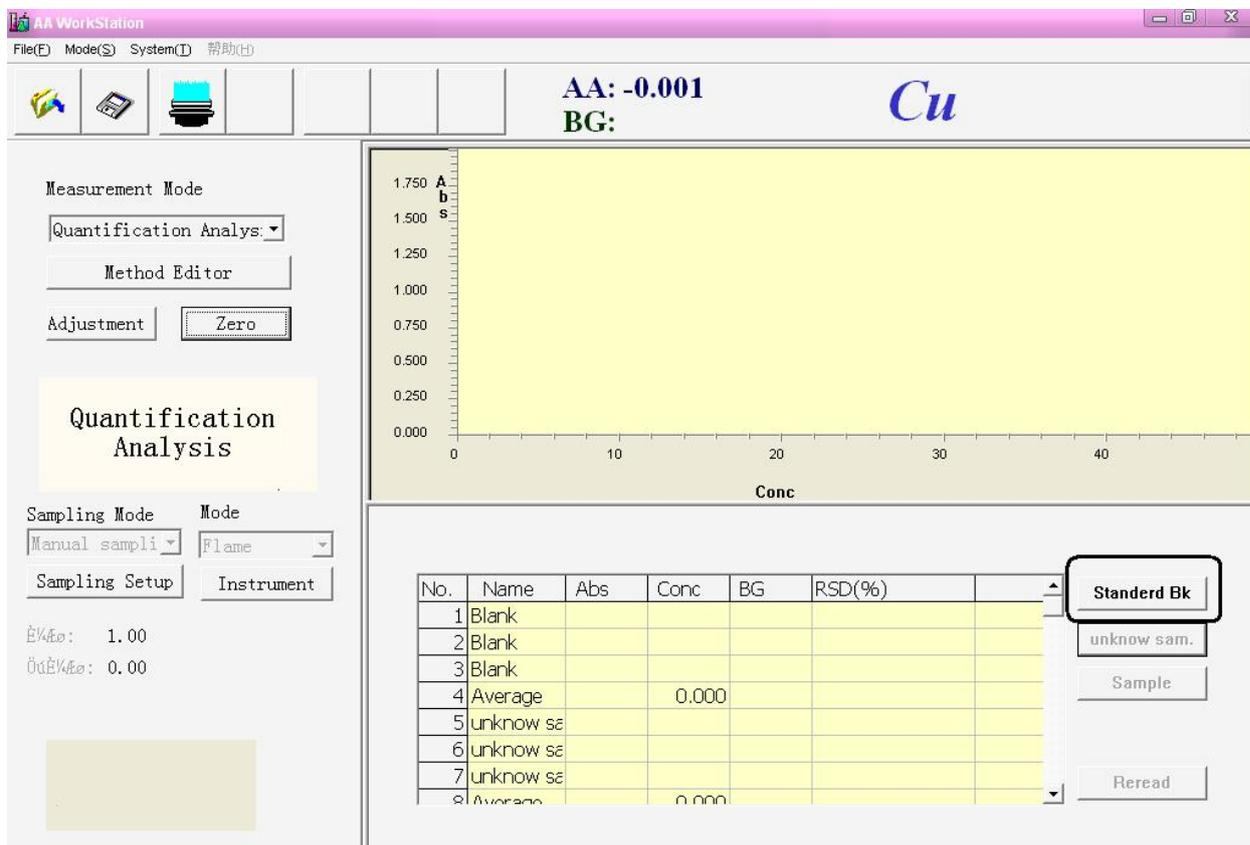

Figure 5-33
7. Press **【OK】** button, close the dialog, "Standard Bk" brighten, figure 5-33